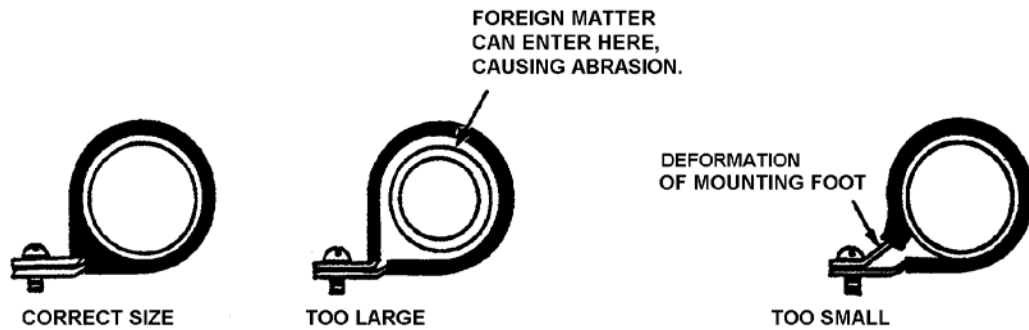

Figure 6. Selecting Correct Size Clamp
24. Selecting Clamps. Selecting the correct size clamp is vital for a dependable tubing installation. A loose clamp will permit abrasion and often cause clamp breakage or even result in tube or fitting failure (Figure 6). The use of too small a clamp will likely result in a broken clamp and subsequent tubing or fitting failure. A 25-lb minimum tension for tubes where no movement is desired and a 10-lb maximum tension where movement is recommended.